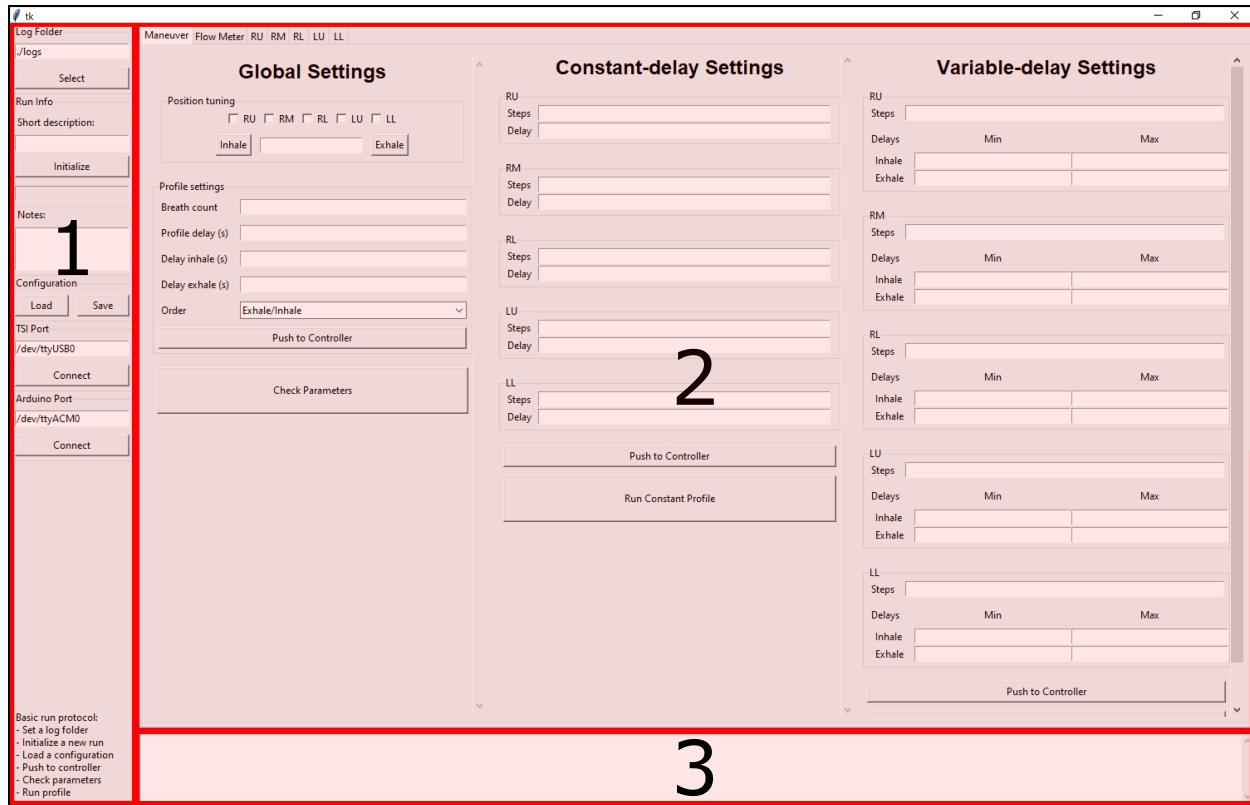

Figure 1: Main GUI. The main GUI consists of three panels.
The GUI layout consists of three main panels, shown in **Figure 1**: (1) the sidebar, (2) the main window, and (3) the log window. The sidebar and log window can be expanded by click-and-drag interaction with the sash, and the panels in the main window can be scrolled through.